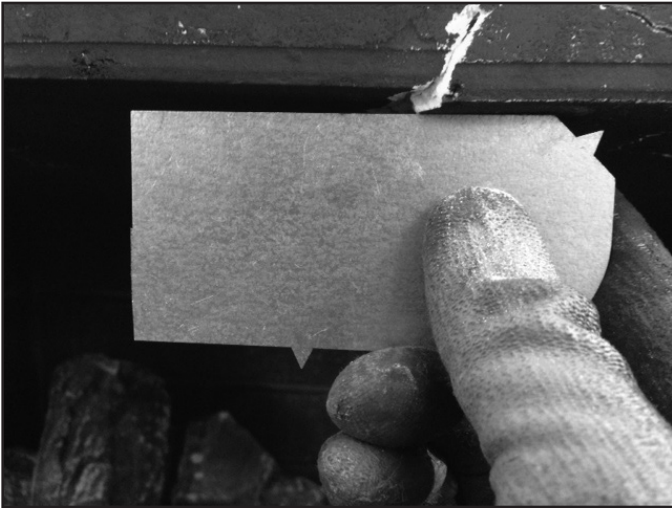

Figure 11.5. Surface plane of firebox is comprised and should be replaced.
- Cracks compromising the surface plane of the firebox. See Figure 11.5.